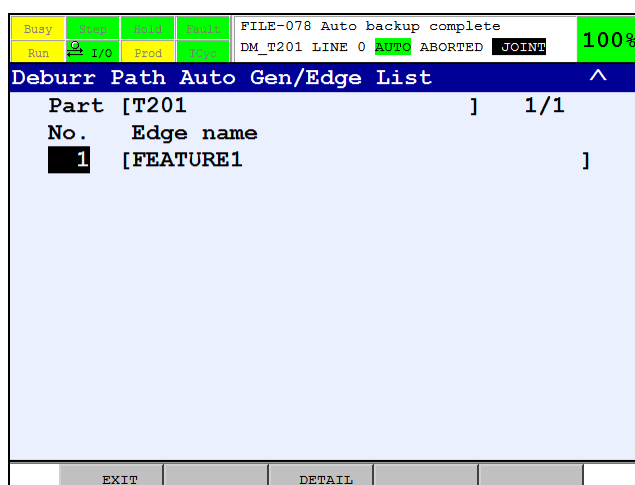

Fig. 5.2.1(b) Edge List screen
- 2 If you select a part on the Part List screen and press the Enter or "F3 DETAIL" key, the Edge List screen for the selected part is displayed (Fig. 5.2.1(b)).